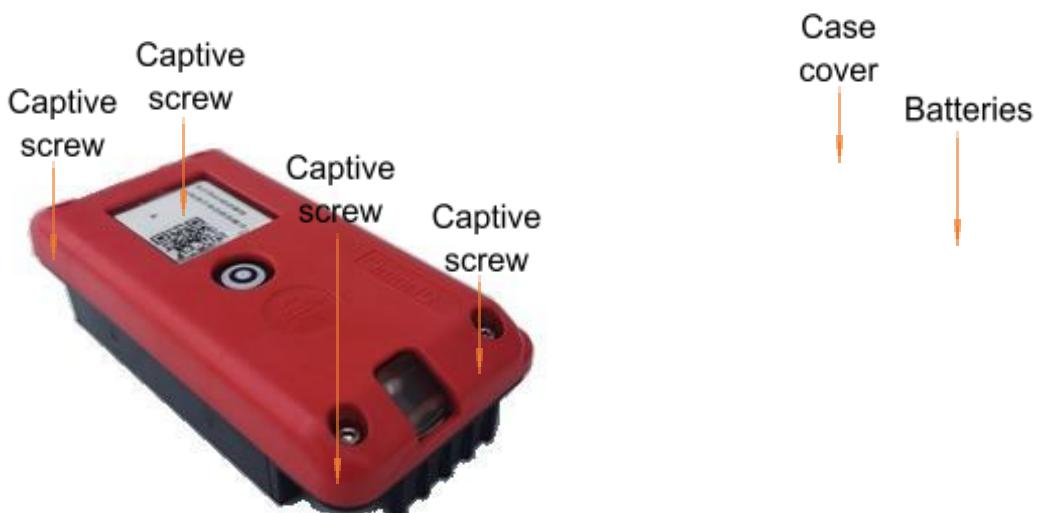

Fig 2
2. Open the case by lifting the edge of the case cover opposite to the hinge side (Fig 2).